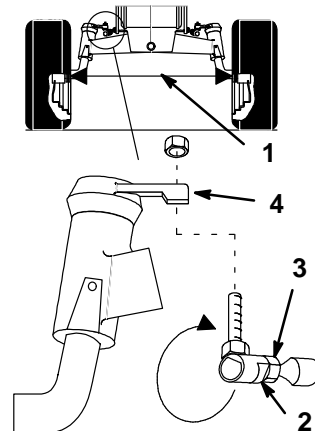

Figure 32
Maintain toe-in of the front wheels as specified. If uneven tire wear, lawn scuffing or hard steering develop adjustment may be required. Check the toe-in after every 100 operating hours or yearly, whichever occurs first (Fig. 32).
3. Measure, between the rims, at spindle level, in the front and rear of the wheels (Fig. 32).
2. Remove ball joint from one steering lever (Fig. 32).
4. Hold flats on ball joint to align with flats on tie rod and tighten jam nut (Fig.32).